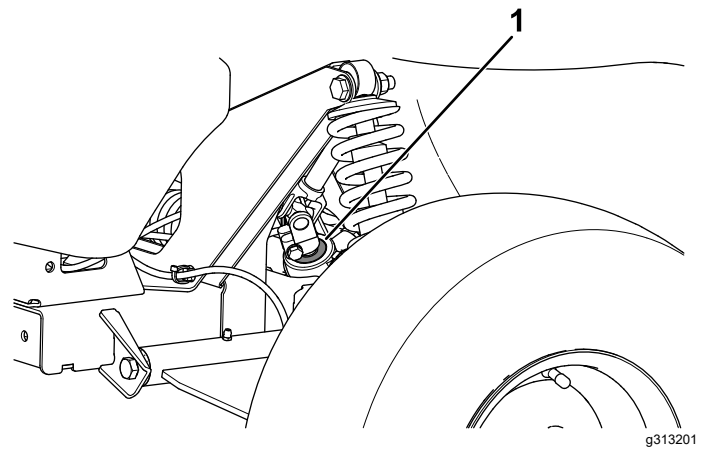

Figure 39
- **Important:** Inspect the condition and security of the pinion-shaft seal (Figure 39).